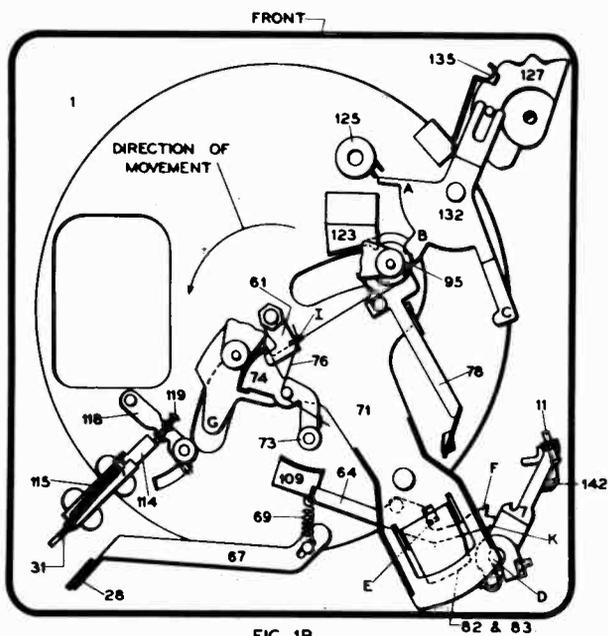
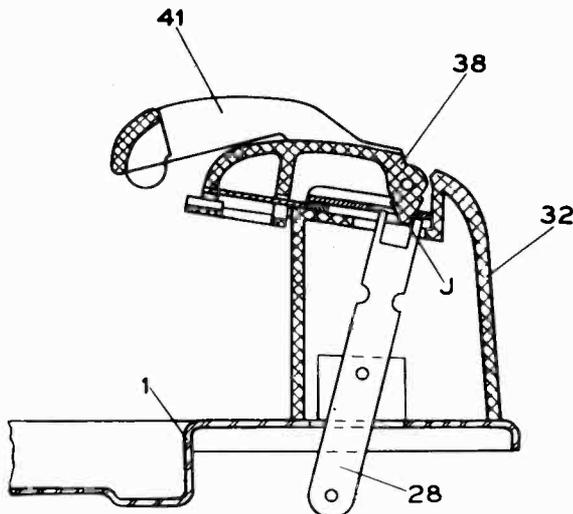
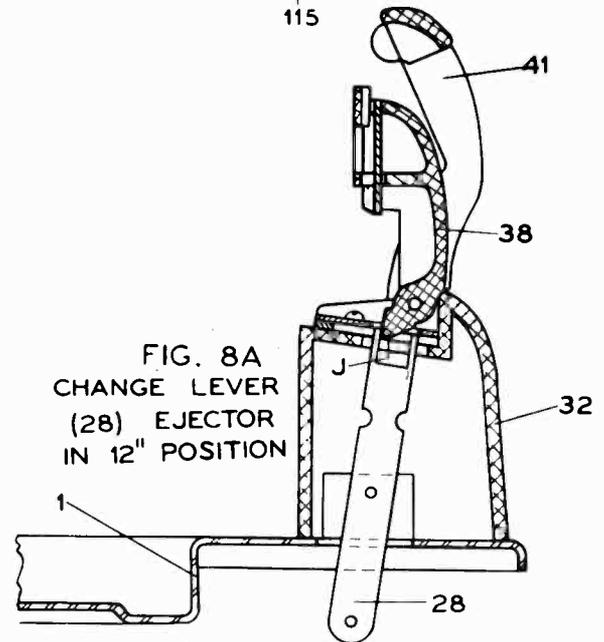

FIG. 1B
FIG. 8
FIG. 8A
To play a 12" record, raise the 10" record support (38) Fig. 8, which causes point J on the 10" record support (38) Fig. 8 to engage the change lever ejector (28) Fig. 8A, which pivots and moves the change lever (67) Fig. 1B, toward the rear of the changer base plate. This allows the ratchet arm lever (64) Fig. 1B to pivot more causing the ratchet arm (7) Fig. 1B to hit against point K on the ratchet arm lever (64) Fig. 1B causing the 12" record to land on the turntable, as was the case with Point F for the 10" record.